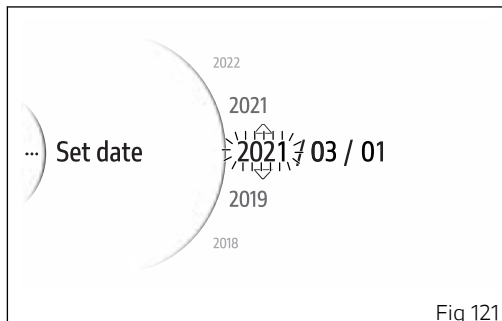

Fig 121
- Use buttons (1) and (2) from the Interactive Menu to select the "Setting menu" item and press ENTER (3).
- Select the "Date and time" item and press ENTER (3).
- Select the "Set date" item and press ENTER (3).
The first parameter of the date (Fig 121) starts flashing and is displayed with two arrows placed above and below it; the available values for the selected parameter are also displayed. Use buttons (1) and (2) to scroll and select the desired value. Press ENTER (3) to confirm and move on to the following parameter.